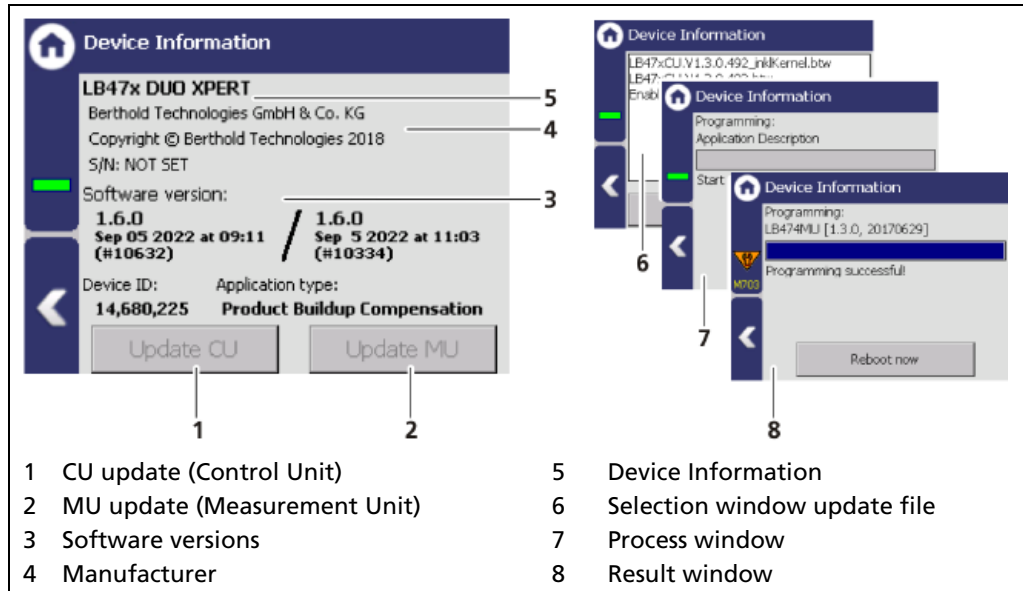

Fig. 25 Device Information
4. The USB storage device is recognized by the system after a few seconds and the <CU Update> (Fig. 25, item 1) button can be clicked.
- ▶ The selection window "update file" (Fig. 25, item 6) opens.
5. Select the appropriate file and click on the button <CU Update> (Fig. 25, item 1). Confirm with <Yes>.
4. The USB storage device is recognized by the system after a few seconds and the <MU Update> (Fig. 25, item 2) button can be clicked.
5. Select the appropriate file and click on the button <MU Update> (Fig. 25, item 2). Confirm with <Yes>.